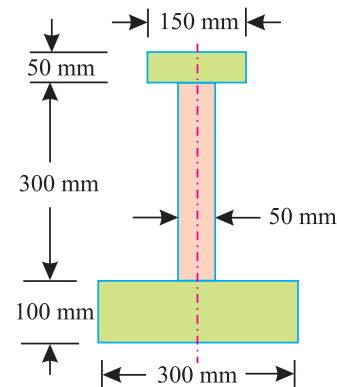

Fig. 6.12.
**Solution.** As the section is symmetrical about Y-Y axis, bisecting the web, therefore its centre of gravity will lie on this axis. Now split up the section into three rectangles as shown in Fig. 6.12.